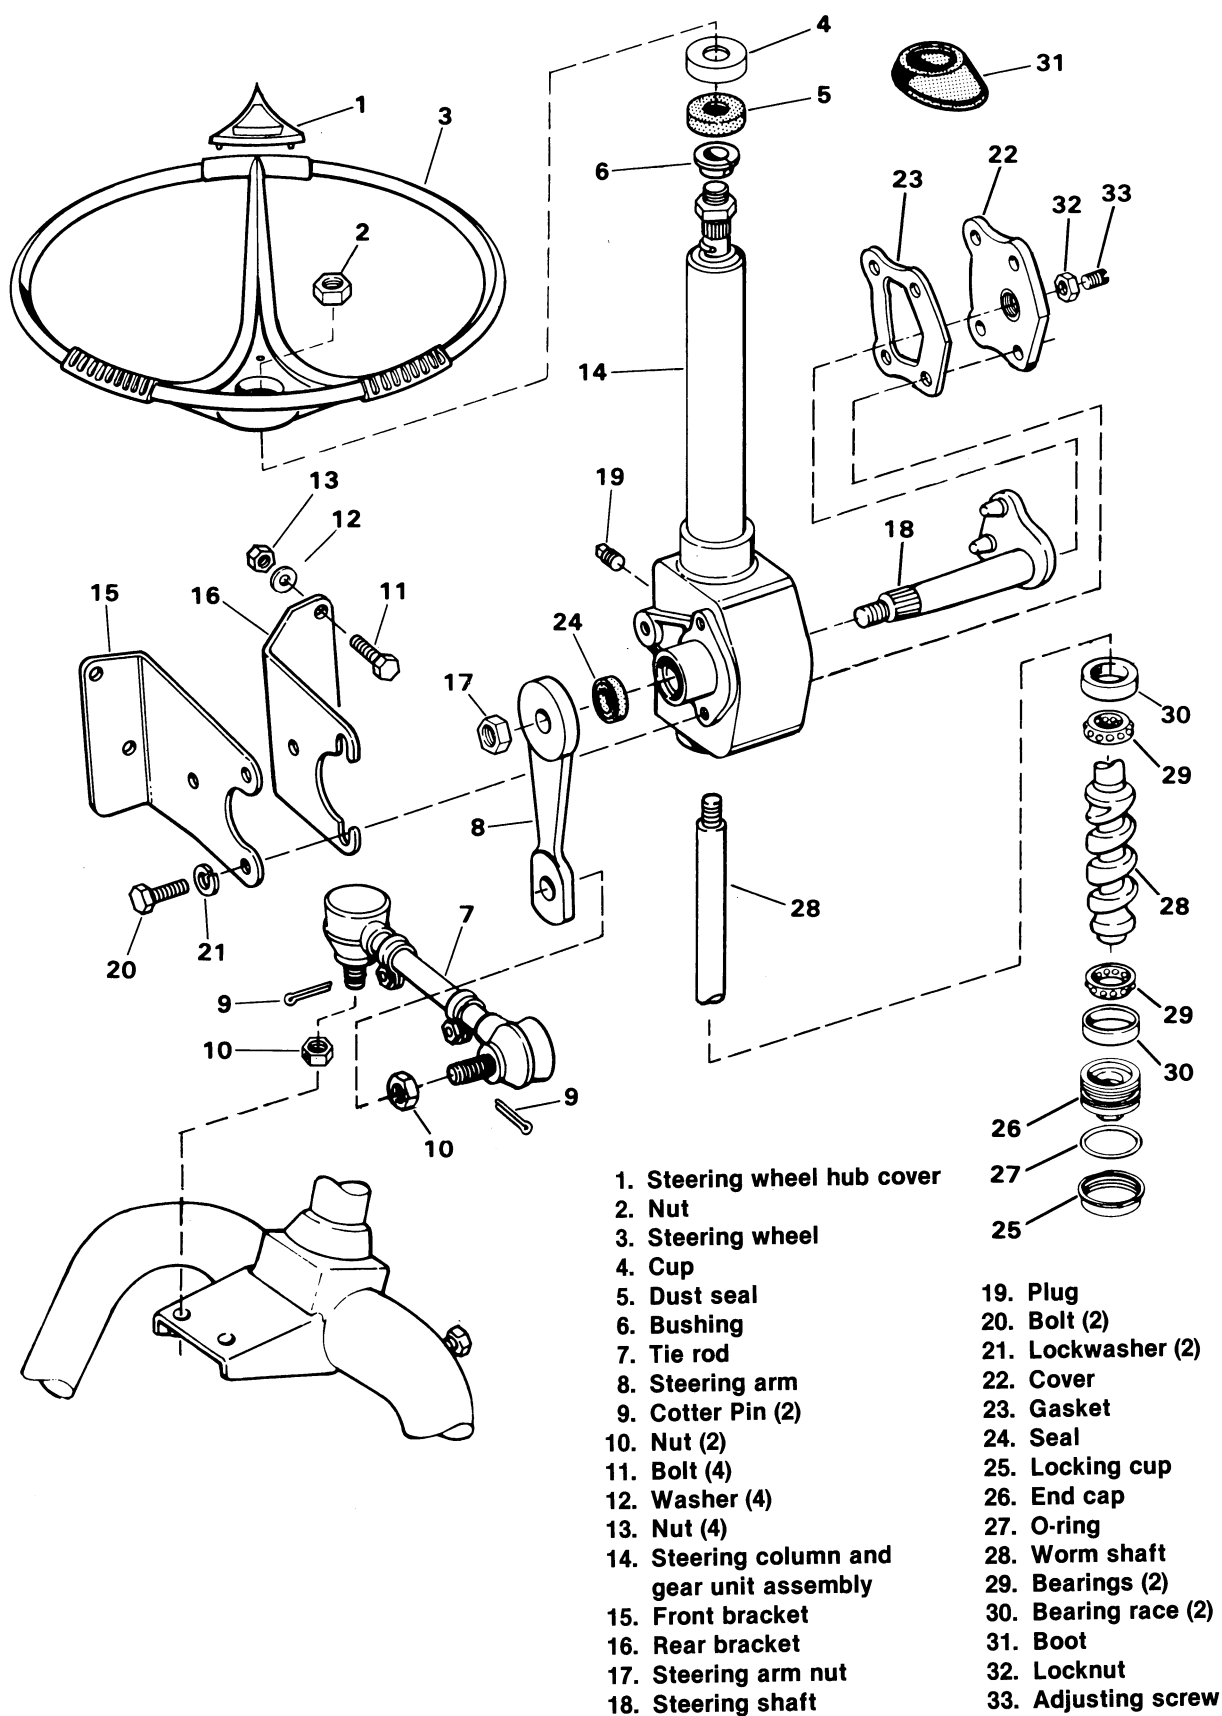
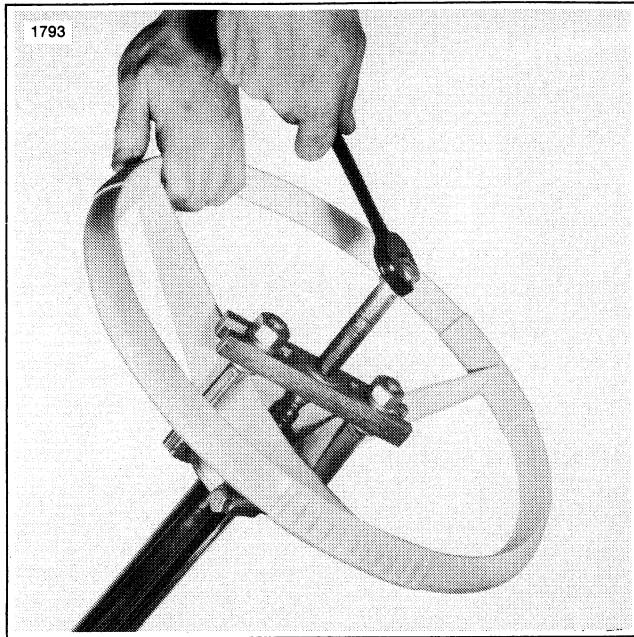

Figure 2-9. Steering Wheel and Steering Gear Unit — Exploded View
Figure 2-10. Pulling the Steering Wheel
A steering wheel assembly is offered as optional equipment. The steering gear box lubricant level should be checked yearly and filled to overflowing through the filler plug (19, Figure 2-9). Use Harley-Davidson TRANSMISSION LUBRICANT Part No. 99890-61A. If water is evident in the steering box, drain and flush it with light engine oil before refilling. This steering assembly has a tie rod assembly which is sealed at the time of manufacture. Each tie rod end is equipped with a plug that can be removed to accept a grease fitting. The tie rod should be greased annually.
Locking cup (25, Figure 2-9) is bent down into notch in housing in one spot. This is original factory adjustment.
2. Remove the nut and cotter pin (9, 10, Figure 2-9) from the front fork. Remove the tie rod.
1. See Figure 2-9. Remove the steering wheel hub cover (1).
3. See Figure 2-9. Loosen the steering wheel nut (2) until flush with the end of shaft and apply penetrating oil to the shaft splines.
4. See Figure 2-10. Install Harley-Davidson WEDGE ATTACHMENT, Part No. 95637-46, under the steering wheel. Cup (4, Figure 2-9) can be depressed to gain clearance. Place a thick washer on top of the steering wheel nut to prevent damage to the shaft from the puller. (I.D. of washer should be smaller than O.D. of steering shaft.) Pull steering wheel loose from shaft using Harley-Davidson PULLER, Part No. 97292-61.
6. See Figure 2-9. Cup (4), dust seal (5) and bushing (6) can be removed from the steering shaft housing if necessary.
1. See Figure 2-9. Install bushing (6), seal (5) and cup (4) in steering shaft housing.
3. See Figure 2-9. Install steering wheel nut and tighten it to 40-50 ft-lbs (5.5-6.9 kgm) torque. Install the cover (1).
STEERING GEAR UNIT (Figure 2-9)